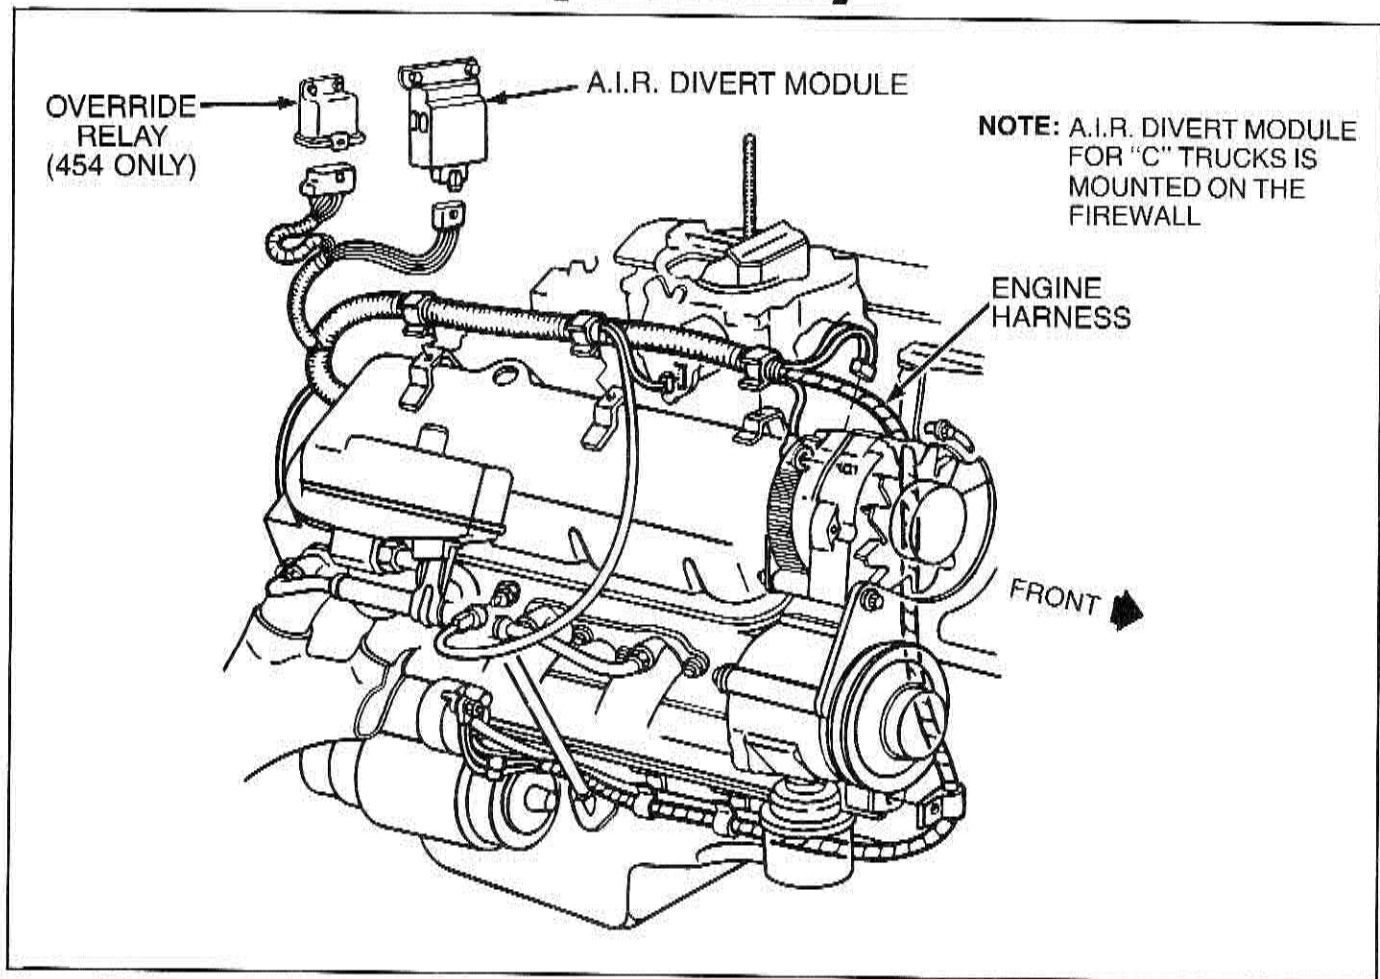

Figure A7-17-3 — H5D Override Relay
NOTE: 1985-86 models equipped with the LE8 (454) and H5D have an override relay. (See Figure A7-17-3.) This relay is necessary due to the lower cranking speed of the LE8 (454) engine. If the relay fails, the CEL will come on. If it becomes necessary to replace the relay or the module, use the part numbers listed in Figure A7-17-4.